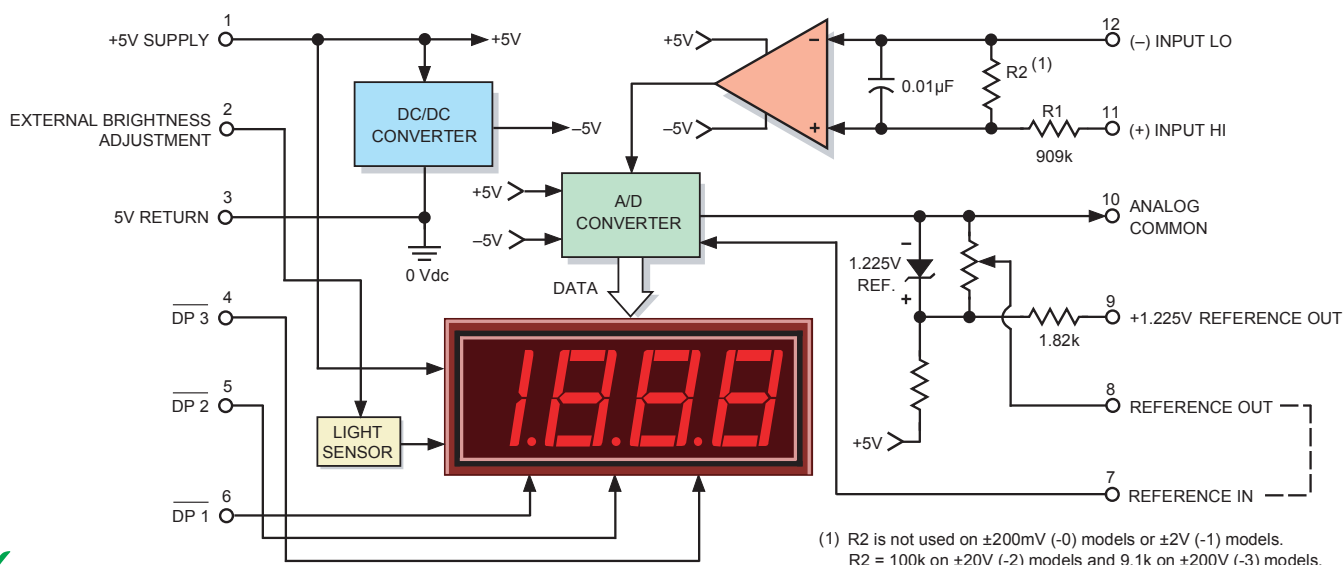

Figure 1. DMS-30DR Simplified Schematic
① Applies for transient or continuous overvoltages applied to (+) INPUT HI (pin 11) with (–) INPUT LO (pin 12) properly connected. Pin 12 is not overvoltage protected (see Figure 1). Voltages applied to pin 12 should not exceed the supply voltage.
② See Technical Notes.
The simplified schematic shown in Figure 1 can be very useful when debugging a malfunctioning panel meter circuit, particularly if the user has some knowledge of operational amplifiers (op amps). The meter’s high-impedance input consists of an op amp powered from a $\pm 5\text{Vdc}$ power supply (the -5V is internally generated). Knowing this, one can easily see why input signals applied to (–) INPUT LO and (+) INPUT HI have to be kept within the power supply rails of $\pm 5\text{V}$. Also note that only pin 11 has a current-limiting 909k Ω series resistor. High input voltages that have a common ground with pin 3 (5V RETURN) should only be applied to pin 11 ((+) INPUT HI) and never to pin 12. In these high-voltage cases, pin 12 should always be tied to pin 3 (5V RETURN).